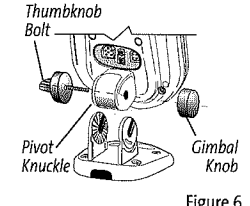

Figure 6
4. Insert the thumbknob bolt through the pivot knuckle on the control head (Figure 6).